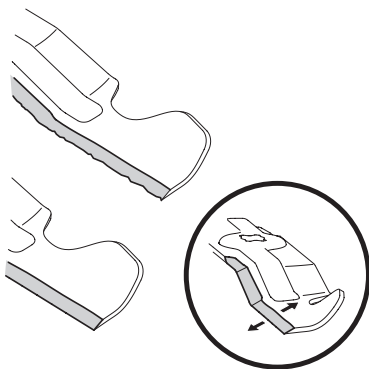

Figure 23
5. To properly sharpen the cutting blade, remove equal amounts of metal from both ends of the blade along the cutting edges, parallel to the trailing edge, at a 25°- to 30° angle. Always grind each cutting blade edge equally to maintain proper blade balance. See Figure 23.